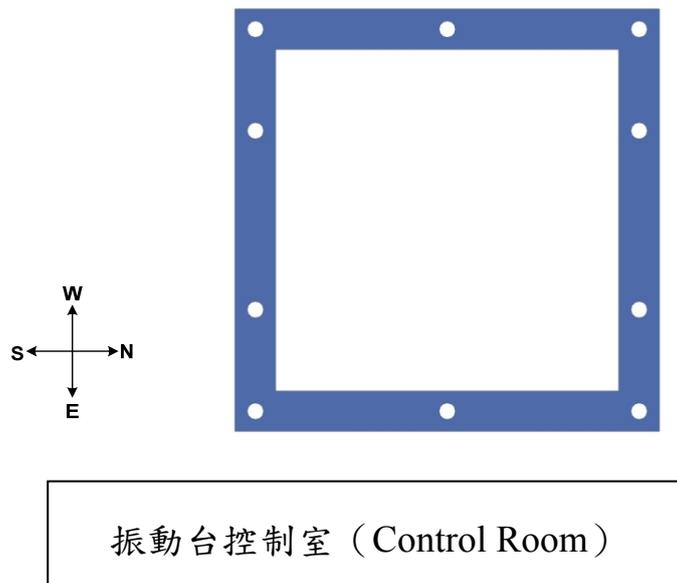

Figure 18. The clamping strip for fixing the base board.
- 14.1.3 The way of fixing the base board onto the shaking table is to use the clamping strip. (Figure 18)